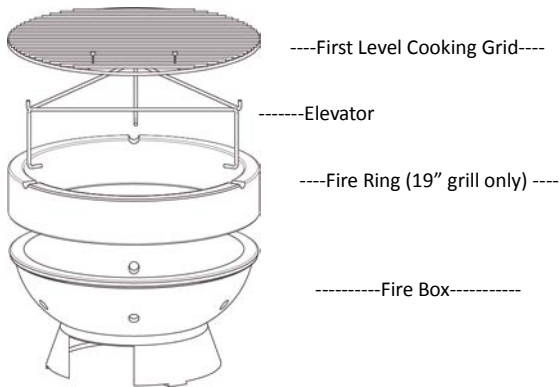

Figure 16
**COOKING CONFIGURATION: Grilling or Searing (SEE FIGURE 16, 17)**